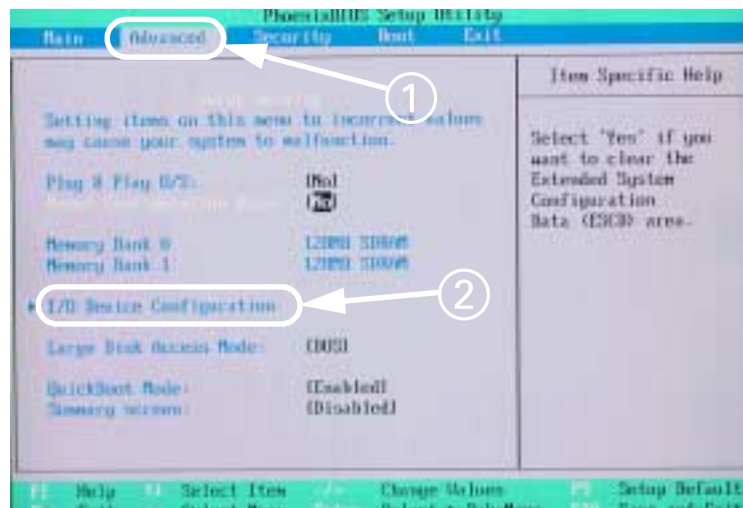

Figure 19-4 Advanced settings
12. Select "Advanced" tab (① in Figure 19-4), using left/right arrow keys.
13. Verify correct "Advanced" settings as shown in Figure 19-4.
14. Select I/O Configuration (② in Figure 19-4) using up/down arrow keys, and then press <Enter> key.